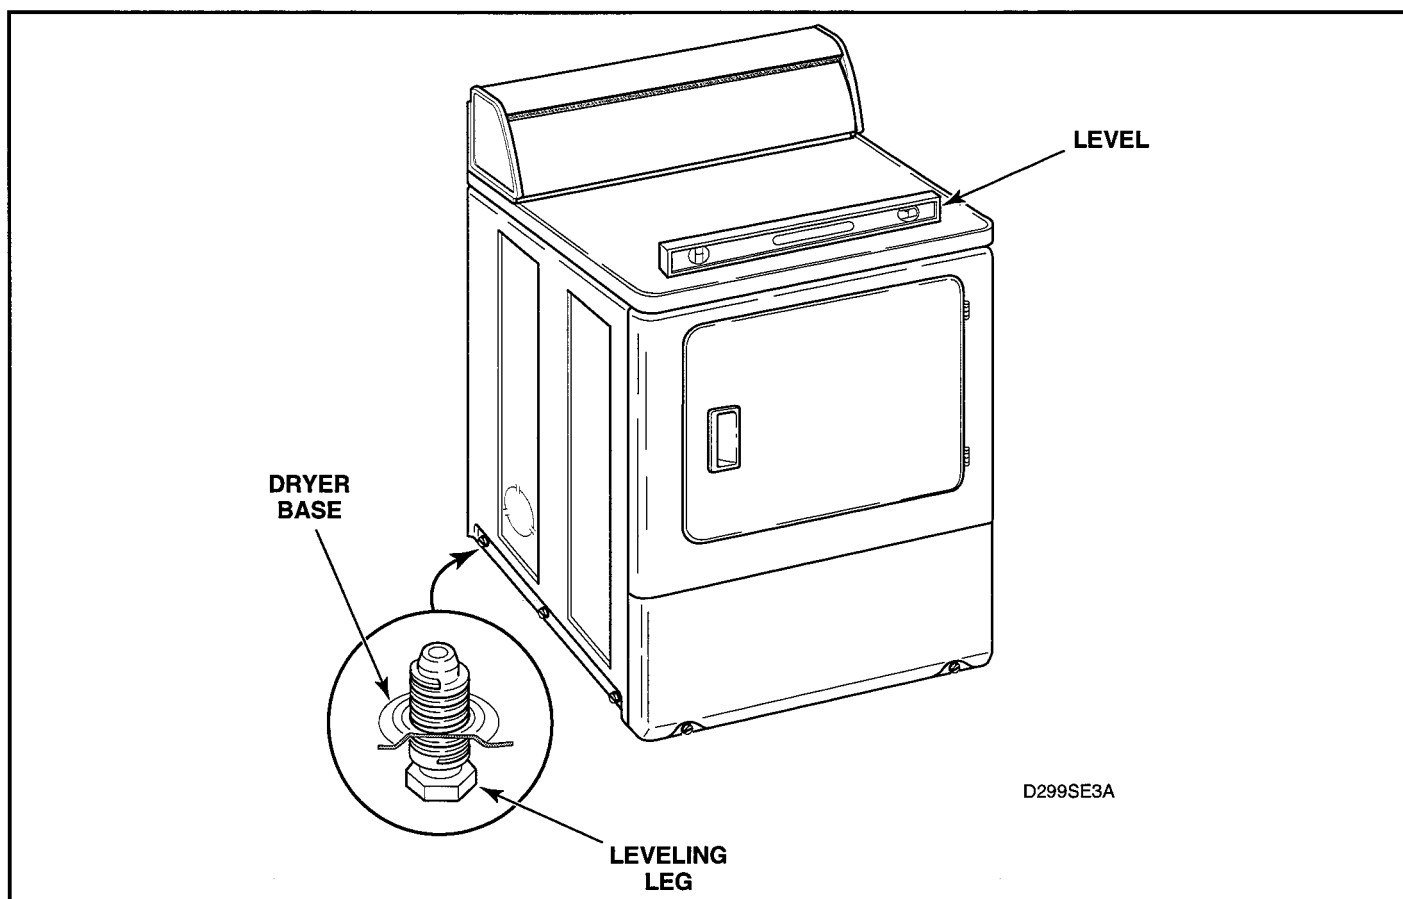

Figure 6-1
- q. Remove leveling legs from base and reinstall on new base. See figure 6-1.
#### 1. LEVELING LEGS (Figure 6-1)